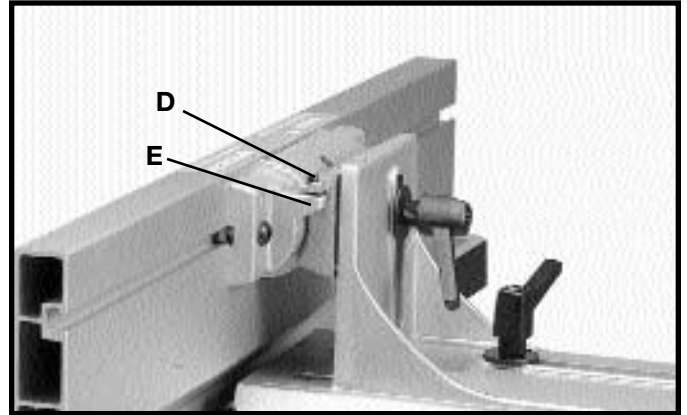

Fig. 27
5. Turn set screw (D) Fig. 27, until it contacts stop (E).